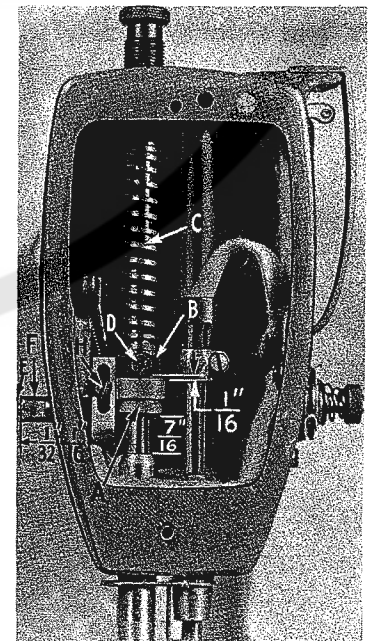

Fig. 16 A
The presser bar connection (A, Fig. 16 A) should be set so that it is about $7/16$ inch (11.11 mm) above the lower presser bar bushing (Fig. 16 A). This is accomplished by tipping the machine back against the rest pin, loosening the lock nut (A, Fig. 15) and relocating the stop screw (B) on the lifter lever bell crank (C). By turning the stop screw to the right or left, the proper setting of the presser bar connection is accomplished. Tighten the lock nut (A) to lock the stop screw in place.
When locating the presser bar guide (B, Fig. 16 A), the presser foot must rest directly against the throat plate with the feed dog in its lowest position. The guide is set properly when there is a $1/16$ inch (1.59 mm) space between guide (B) and presser bar connection (A, Fig. 16 A).